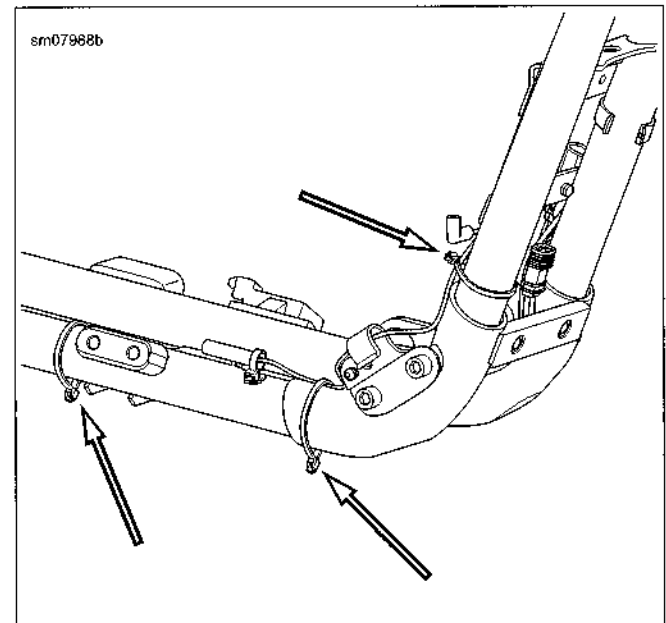

Figure 6-88. Cable Strap Locations
7. See Figure 6-88. Secure stator harness and neutral switch wire lead with cable straps.